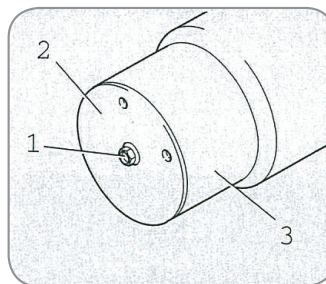

Figure 3
2. Remove M16 screw [Item 1] and take base plate [Item 2] off the piston [Item 3] (*Figure 3*).